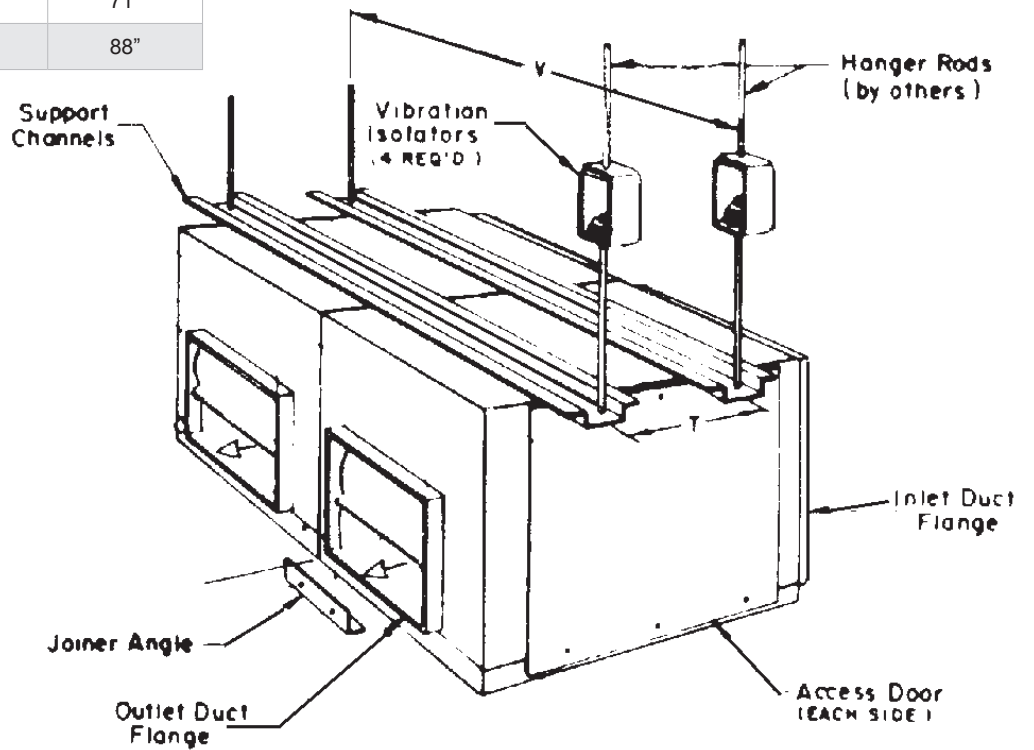

FIGURE 3: DUAL UNIT
On dual unit cabinet fans (model CCB), support channels provide the point of attachment instead of mounting holes (see Figure 3). Model CCB units are pre-assembled with a joiner angle and two (2) support channels connecting the two units. Use four (4) 3/8" diameter threaded steel rods (supplied by others) for installation purposes. Attach the rods securely to the ceiling panel or joist system and cut to length so the fan will hang in a level plane. Mount the unit in place using the holes provided in the support channels and use nuts and washers, as described and use nuts and washers, as above, to lock the unit in place.